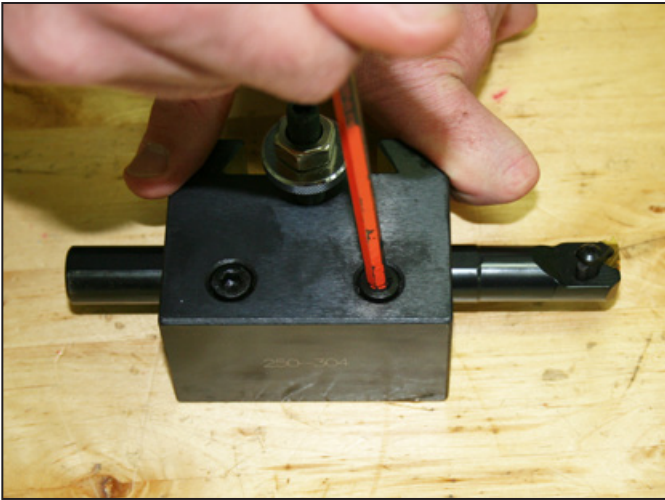

Figure 12
1. Insert desired tool into Boring Bar Holder and lock tool by tightening two hex-head cap screws (see **Figure 12**).